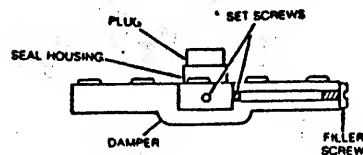

Figure 3-32
3. Using plier, remove damper plug. (See Figure 3-32).